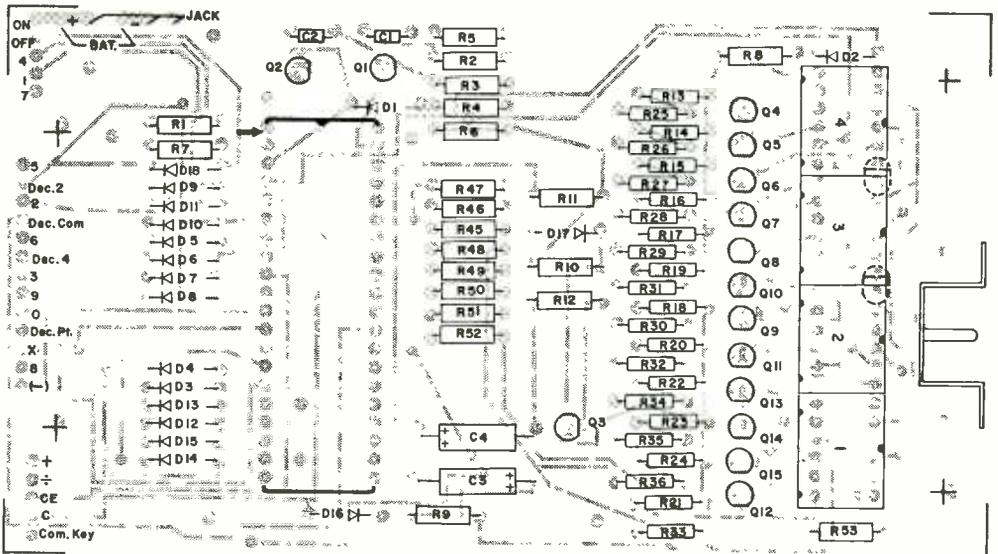

Fig. 6. Parts placement. Plated-through PC board cannot be home-built. See parts list.
**Construction.** Other than the keyboard, the entire calculator is built up on one double-sided, plated-through PC board. Because of the complexity of this board, and the fact that it must be double-sided with plated-through holes, it is almost impossible to make on the experimenter's bench. A source for a completed board is given in the Parts List. This board also comes with component installation screened on the top side. Component installation is in accordance with Fig. 6. All components, except for the IC, LED's and their associated driver transistors (Q4 through Q15), should be correctly mounted and soldered in place using a 25-30 watt soldering iron and fine solder.
four LED display assemblies to be installed. You can start with six readouts. Each "stick" of readouts contains three digits—so you will need two display packages. In this case, they will be mounted at LED positions 1 and 2 of Fig. 6. As you only need drivers for six digits, install only Q10 through Q15 and their associated resistors. At some later date, you may want to increase the number of digits, so all you have to do then is install the LED readouts (in "sticks" of three) and their associated drive transistors and resistors. The installation technique is the same as for the original six.
If you examine the LED readout, you will note that it has a single notch on one side, and two notches on the other. The "top" of the digit has one notch and is installed in accordance with Fig. 6. Install the first "stick" so that the side towards the transistors is flush with the board and the upper end spaced about 1/8" above the board (you can use a 1/8" drill bit as a temporary spacer). This tilt will enable the readouts to be clearly visible through the case window. Install
Next, install the negative-sign LED (*D2*), at its position on the left-hand side of the board, as shown in Fig. 6. Fit the top (round) end of the diode so that it is the same height as the LED readouts.
Remove the IC from the conductive foam and check that the pins are straight. If any are bent, use needle-point pliers to align one at a time—do not use your fingers. Orient the IC notch with the notch shown at "IC1" in Fig. 6. Align the 20 pins on one side with the socket holes and start them in. Do the same on the other side, using a pencil tip to align the pins with their socket holes. When all 40 pins have been started in, rock the IC back and forth while pressing it into the holes until it is firmly seated. After the IC is seated, remove the aluminum foil from the underside of the board.